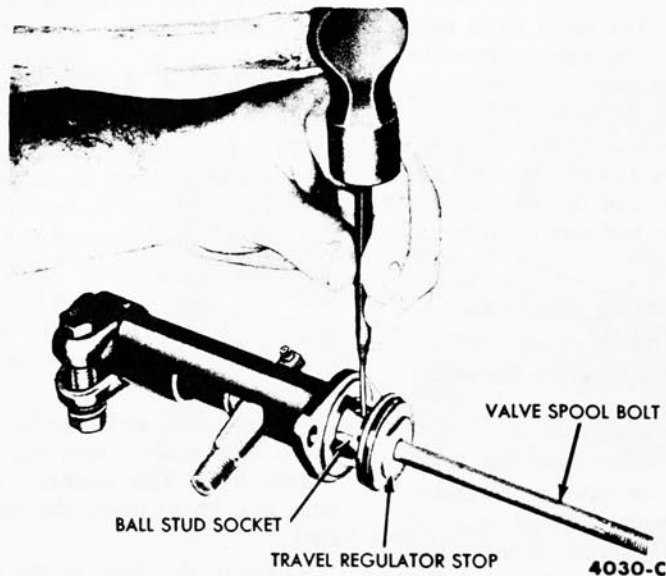

FIG. 11—Stop Pin Removal
8. Drive the stop pin out of the travel regulator stop with a punch and hammer (Fig. 11). Pull the head of the valve spool bolt tightly against the travel regulator stop before driving the pin out of the stop.